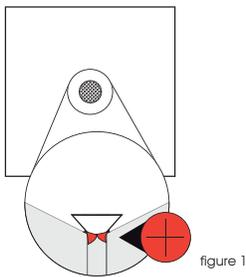

figure 1
- 3.1.** First, cut the membrane to cover your entire shower base, without forgetting to cut a hole for the drain (Figure 1). Put the membrane aside and go to the next step.